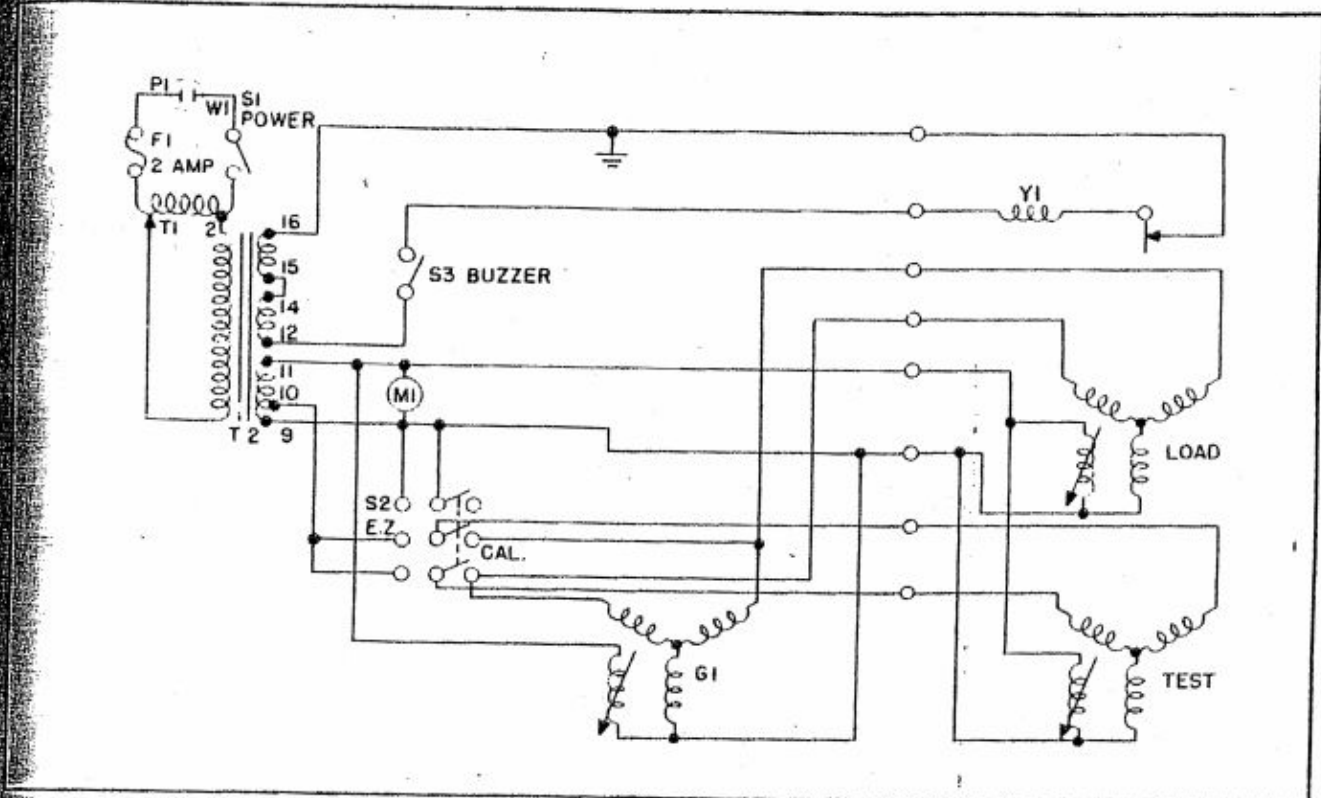

Figure 5-73. Indicators ID-90(1)/ARN-6, ID-91(1)/ARN-6, and ID-231(1)/ARN-6
6. Connect the autosyn to an electrical zero transformer as shown in figure 5-73. Set the master autosyn for zero. With the autosyn locked at electrical zero, press the pointer onto the tapered shaft of the autosyn.
(a) The tests described in the following paragraphs should be made using the test circuit shown in figure 5-73. All tests should be made with a master transmitter, the indicator under test, and one other indicator in the circuit, except where otherwise specified. The master indicator should be an Air Force Type MO-40, or equivalent, that has been selected for accuracy. Mount the master transmitter so that the rotor may be positioned at the 15 degree points ac-